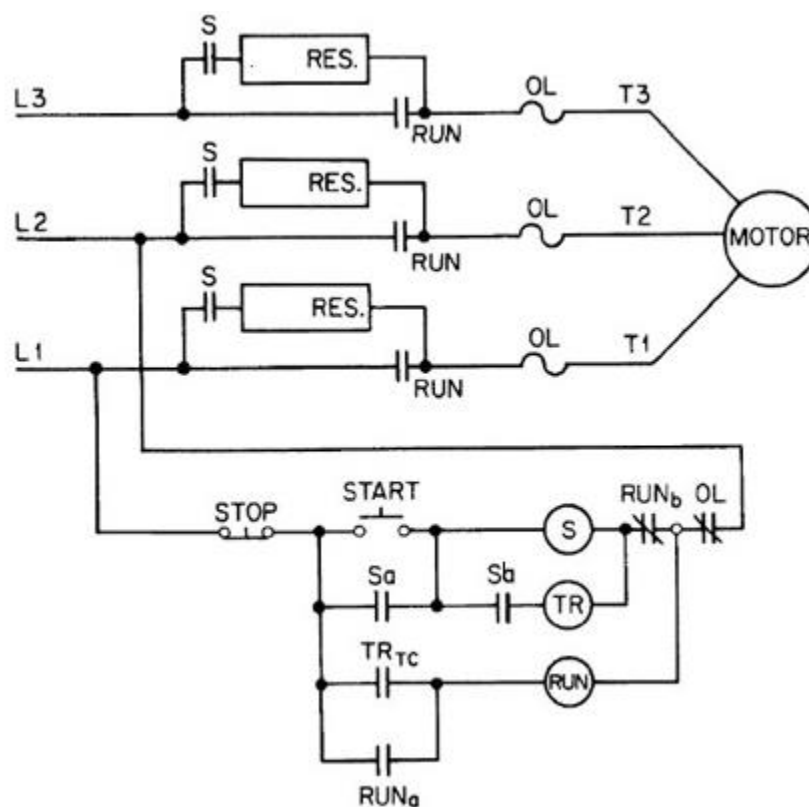

Fig. 1 Diagram for Question 6 (b)
- (b) Typical wiring diagram for automatic line resistance starter is shown in Fig. 1. Referring to the figure, state whether the following statements are true or false [1 mark each]: